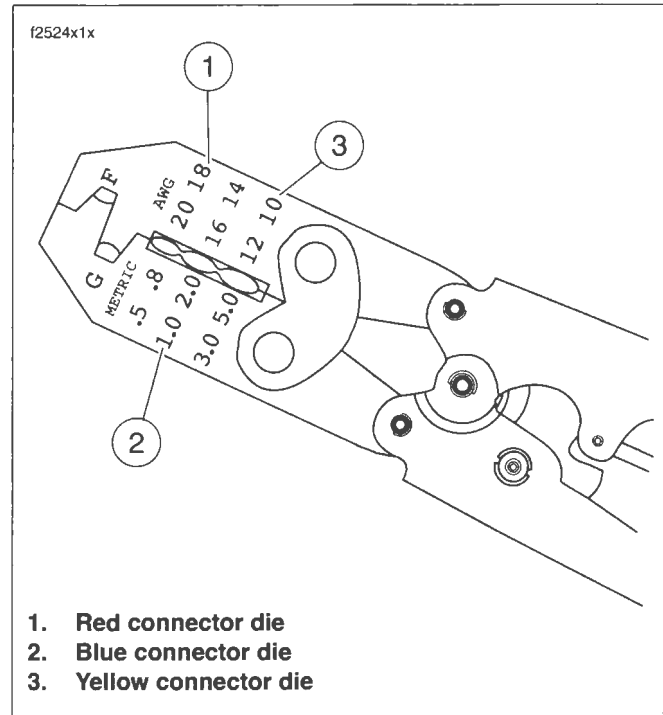

Figure B-48. Packard Crimping Tool (HD-38125-8)
1. See Figure B-48. Open the Packard Crimping Tool (HD-38125-8) ratchet by squeezing the handles closed.